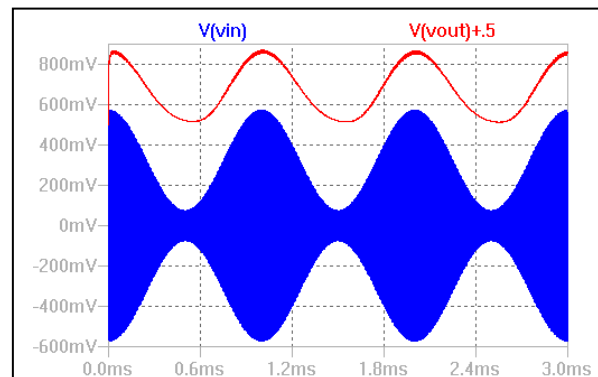
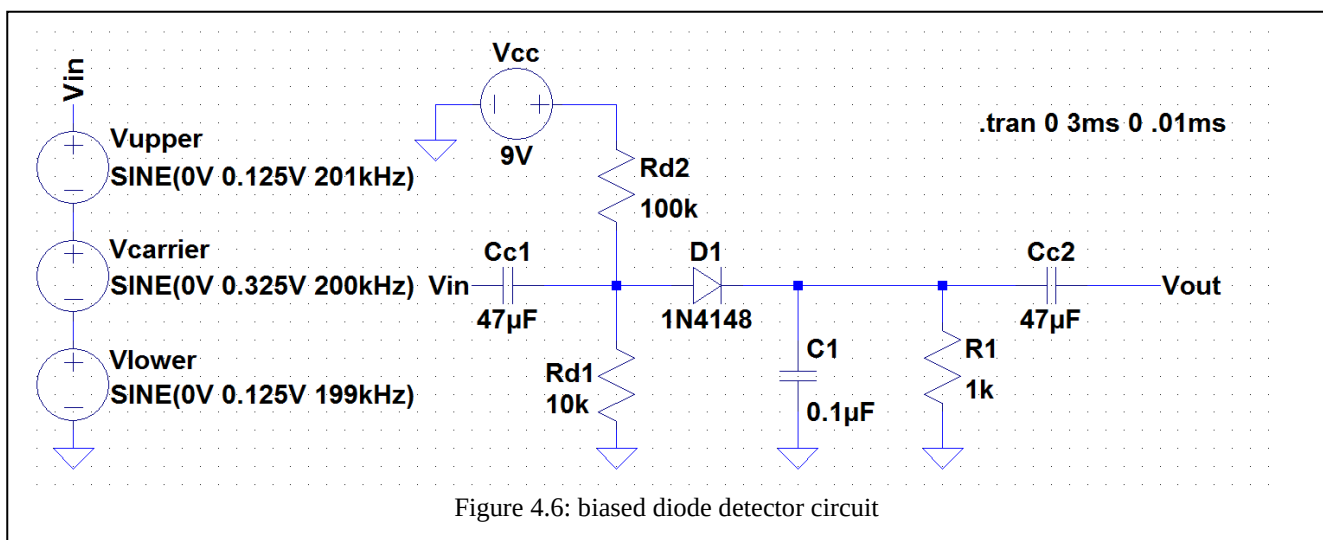

Figure 4.7: LTspice simulation of the biased detector circuit of Figure 4.6
Figure 4.6: biased diode detector circuit
1. Construct the LTspice **schematic** of the circuit shown in Figure 4.6. Notice that this is still a fairly strong input signal. Run a **transient simulation** on this circuit. You should get the results shown in Figure 4.7.
3. Now divide the signal levels of Figure 4.6 by 10 and **re-simulate**. **Comment** on the results.
7. Construct the biased diode detector circuit shown in Figure 4.6.